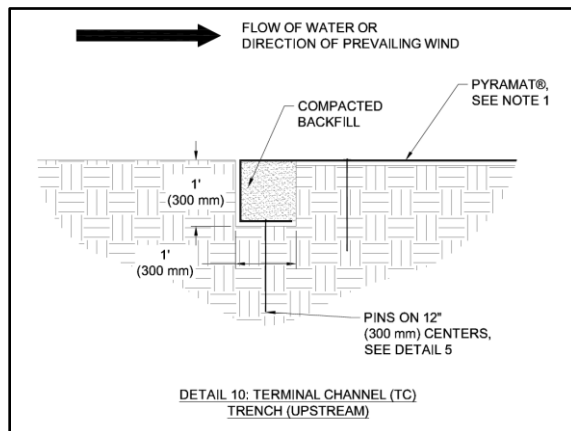

Figure 3: Terminal Channel (TC) Trench
- Excavate a Terminal Channel (TC) trench a minimum of 12 in x 12 in (300 mm x 300 mm) across the channel at the upstream end of the project (Figure 3). Deeper TC trench and/or hard armoring may be required for channels that have the potential for scour.